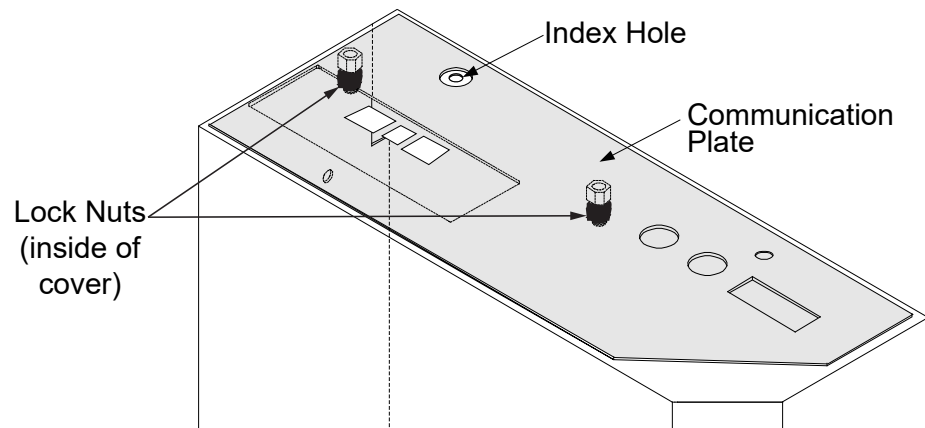

Figure 6-5 M-6200A Control Rear Cover, Communication Plate Orientation
1. Remove and discard the two lock nuts (Figure 6-5) from the inside of the rear cover; then remove the communication plate.
2. Insert the appropriate communication plate onto the top panel of the rear cover, ensuring that the index hole (Figure 6-5) is exposed.
3. Install the kit's lock nuts onto the communication plate's captive screws to secure the rear cover (Figure 6-5).